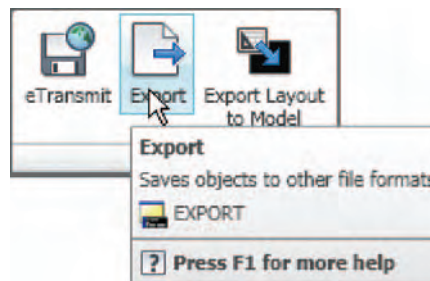
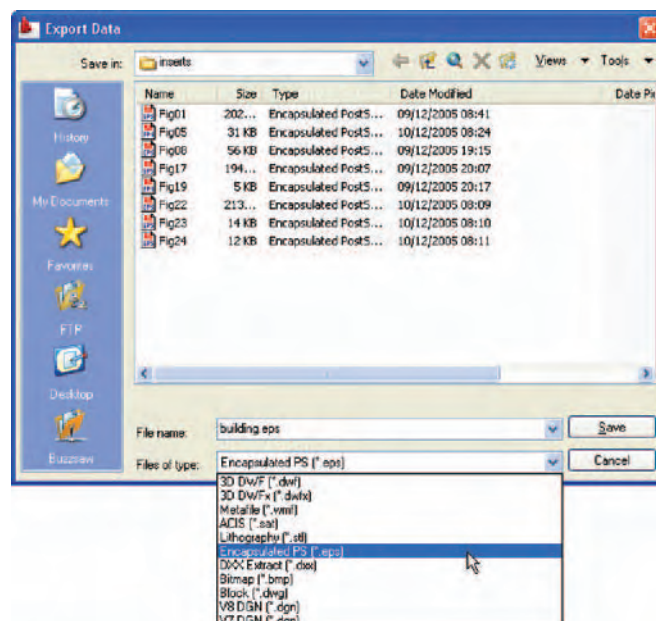

Fig. 10.3 Selecting the **Export** tool icon from the **Output/Send** panel
Fig. 10.4 The **Export Data** dialog of AutoCAD 2009
1. With the same drawing on screen *click* on **Export...** in the **Output/Send** panel (Fig. 10.3). The **Export Data** dialog appears (Fig. 10.4). *Pick Encapsulated PS (*.eps)* from the **Files of type** pop-up list and then *enter* a suitable file name (**building.eps**) in the **File name** field and *click* the **Save** button.